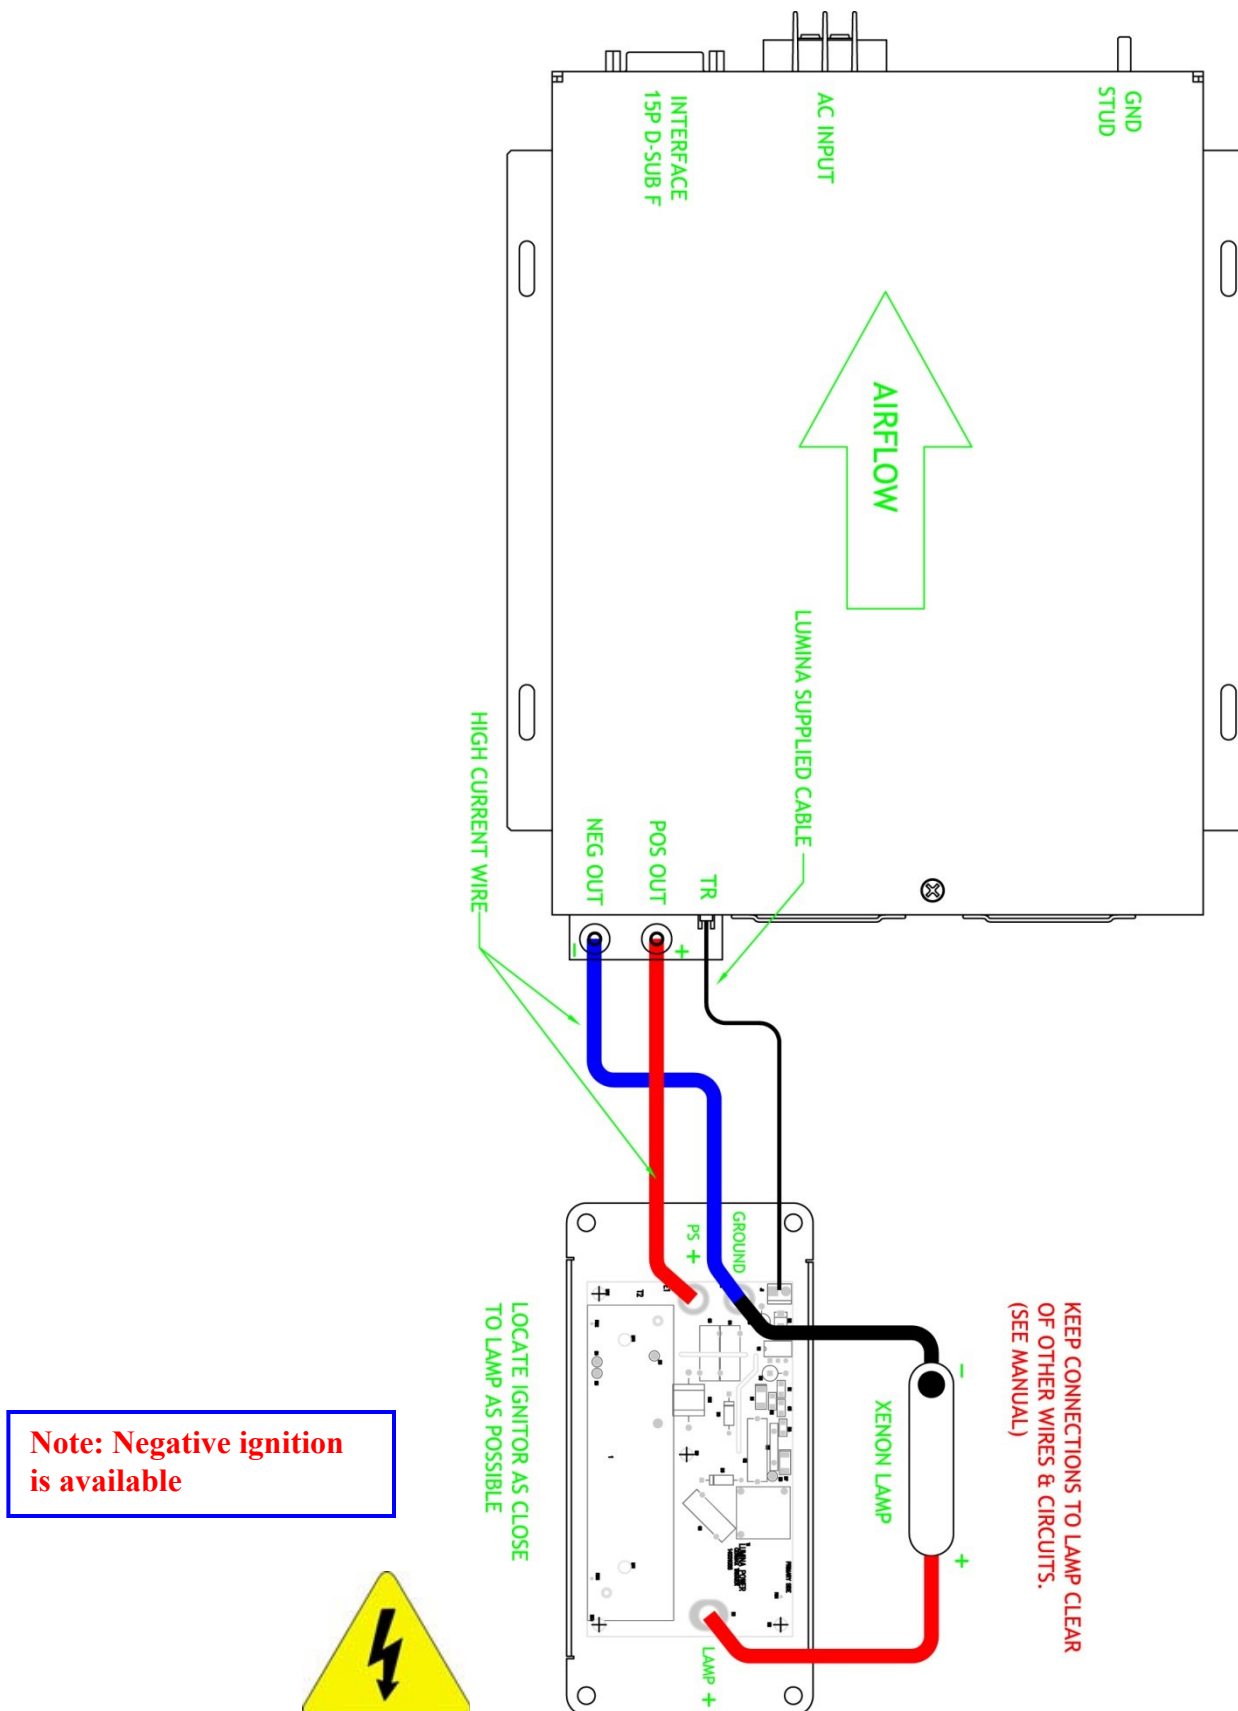

Figure 7
1. **Connecting to Xenon Lamp:** Figure 7 shows the interconnections between the XLB-1000/1500, the Igniter module and the Xenon lamp. **Because the Igniter module produces a high speed 45kV pulse when igniting the Xenon lamp, it is important to keep connections between the igniter module and the lamp as short as possible to avoid I^2R losses in the wire. Wire length of 30 cm or less is recommended for reliable ignition!**
2. **TR Trigger Sense Connection:** Connect the TR trigger sense connection wire to the trigger module and the XLB-1000/1500 main power supply chassis. The cable for this connection has been provided. The location of the connections is shown in Figure 7. Note: unit will not operate if not connected.